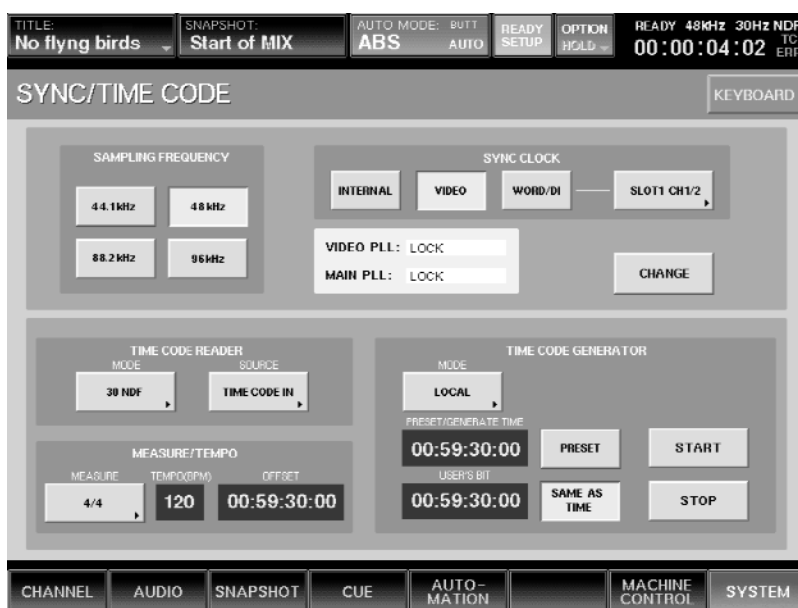

Figure 3
- 1 Press the SYSTEM tab at the bottom of the touchscreen. From the pop-up menu select SYNC/TIME CODE; the window appears. (See Figure 3)